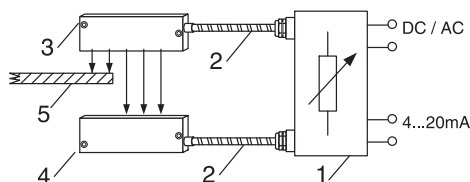
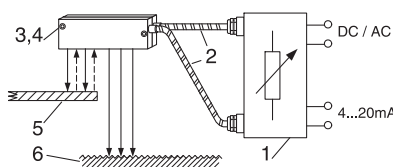

Fig. 1
Fig. 3
In the system structure illustrated in Fig. 1 the optical converters (3, 4) are configured in opposing positions to form a photoelectric barrier. The material (5) which, for example, may be paper or a metal edge, pushes into the light ray and, depending on the depth of insertion, reduces the ray path of the light flow detected by the converter (4). The amplifier (1) which is connected by means of the fibre-optic cable (2) supplies a control signal (4...20 mA) to its output which is proportional to the insertion depth of the material (5) depending on the formation of the optical converters (3,4) with a repeating accuracy of up to ± 0.5 mm. Opportunities for adjustment are pro-
In the reflex process illustrated in Fig. 3 the optical converters (3, 4) for the send and receive signals are arranged next to each other, e.g. above the material (5). With this arrangement the material does not interrupt the ray path between the sender and the receiver, but rather reflects a residual ray flow, which is detected by the receiver (4). The output corresponds to the distance of the materials. In this arrangement the result is also a current signal from the amplifier (1) which is proportional to the insertion depth of the material with high repeating accuracy.
Cracks or non-homogeneity in the area of the edges are principally recognised by the processes described in Fig. 1 or Fig. 3. In accordance with Fig. 1, cracks or non-homogeneity are recognized as short flashes of light while passing through, whereas in accordance with Fig. 3 depending on the background the reflection is briefly altered.
Recognition of cracks or irregularities in the material characteristics, e.g. also holes, is dependent on high speed reception on the part of the recording system. If, for example, in accordance with Fig. 1 a crack approx. 2 mm wide moves past the optical converter at a belt speed of 10 m/s the duration of the flash amounts to 0.0002 s. In this case, the optical amplifier has to have a resolution of at least 5 kHz. Similar conditions exist if, for example, border recognition with an accuracy of only a few millimeters has to be carried out for rapid pipe throughput in a section reduction rolling mill.